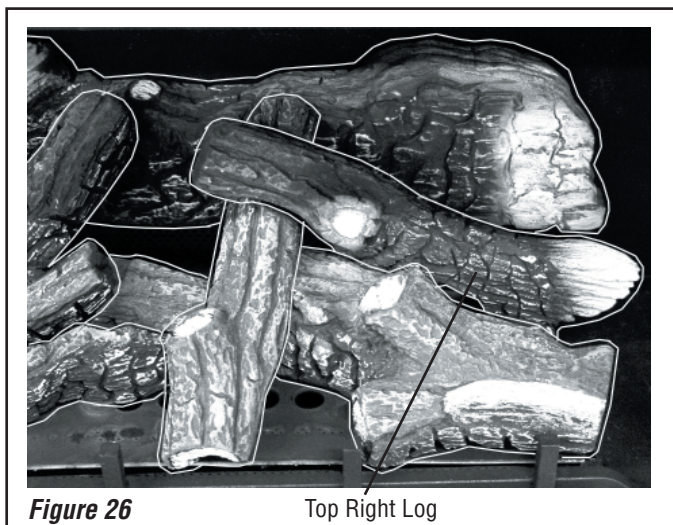

Figure 26
7. Install the Top Right Log into the corresponding indentations on Front Center Log and front right twig as shown in Figure 26.